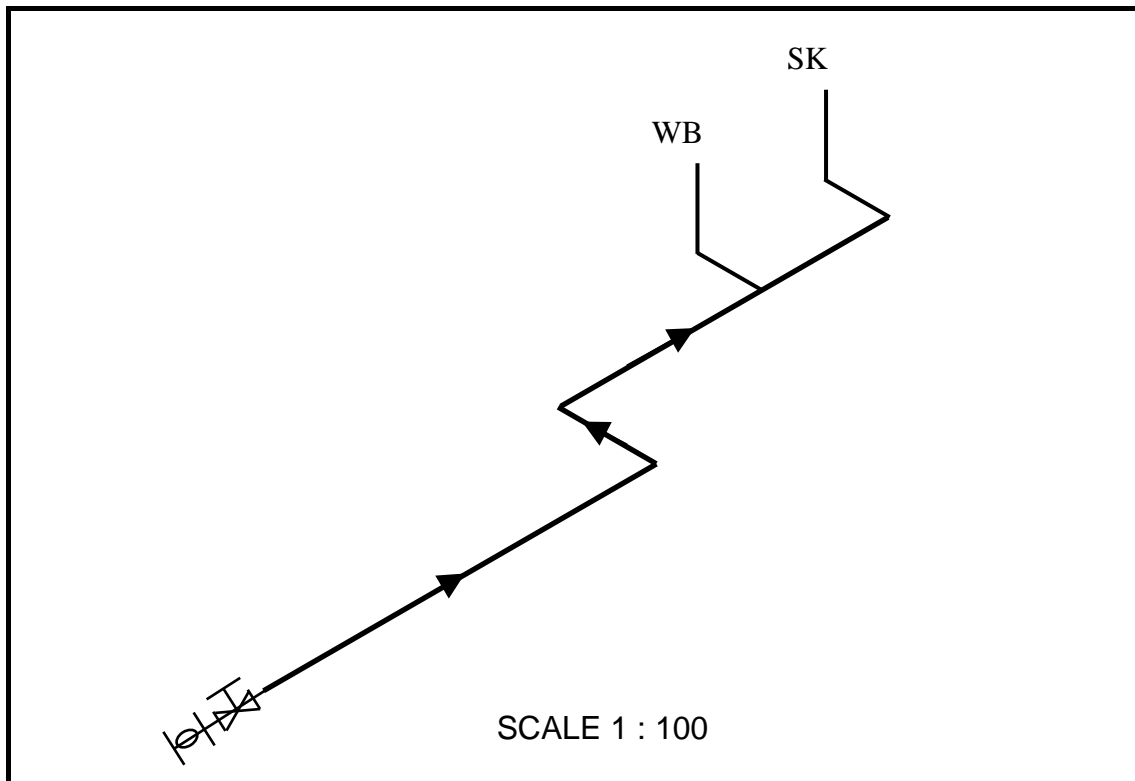

FIGURE 5.9
- 5.9 FIGURE 5.9 shows an isometric line diagram of the cold-water supply on scale 1 : 100 from the water meter to a building. The main cold-water pipe has a diameter of 22 mm and the branch pipes a diameter of 15 mm. Study the drawing and determine the following quantities that are needed to complete the installation.